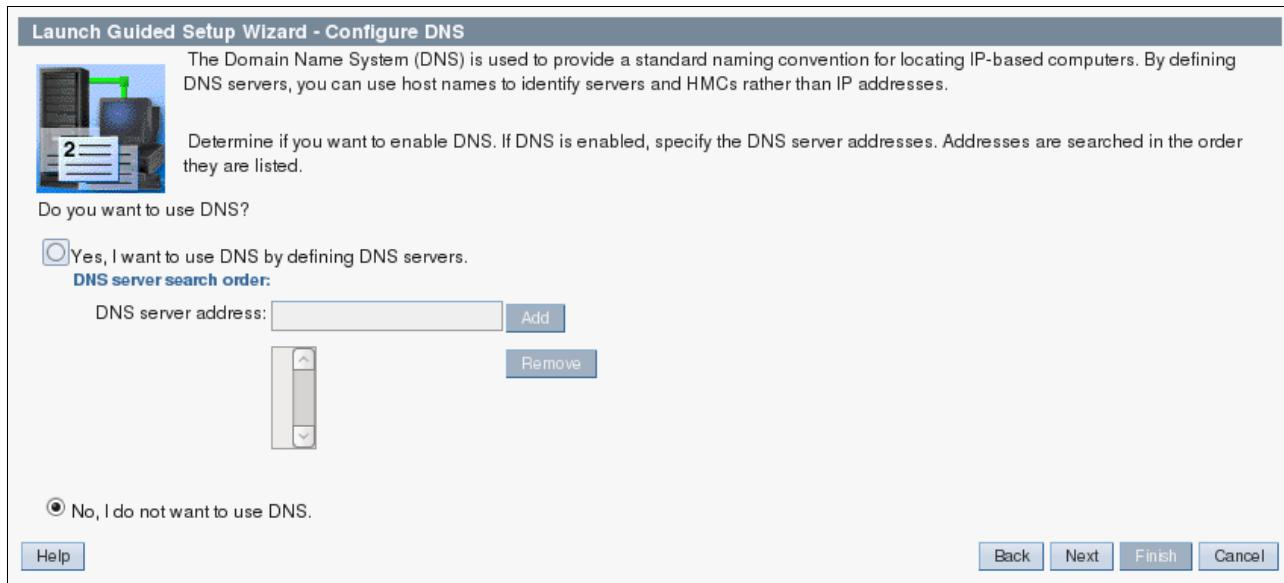

Figure 3-101 DNS configuration
30. Although in the Configure DNS panel (Figure 3-101), you may specify the DNS appropriate to your environment, in this example, no DNS is configured so select **No** and click **Next**.